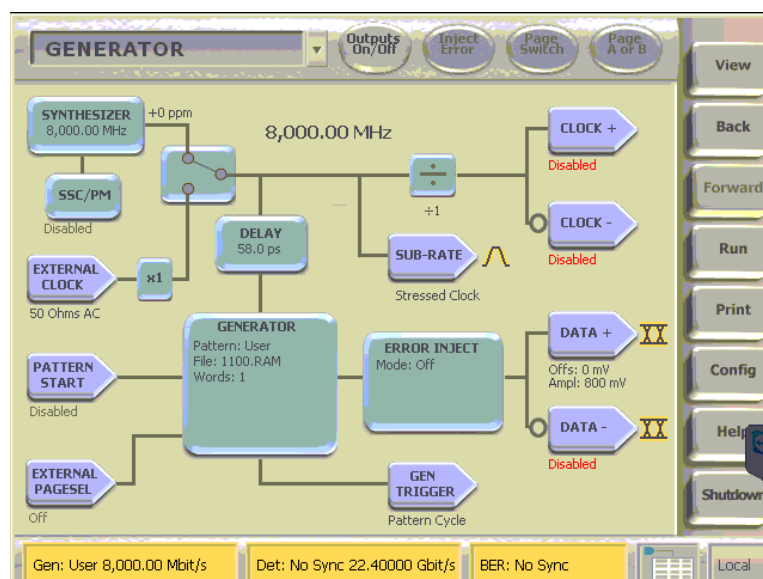

FIGURE 65. BERTSCOPE PATTERN SETUP
5. Set the Pattern of generator to 1100.ram (1-1-0-0 pattern). See Figure 65.